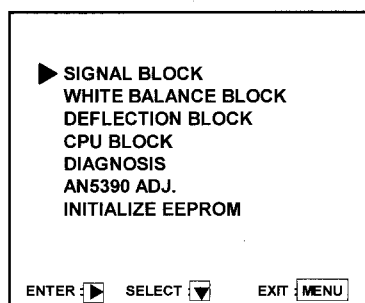

Fig.3
7. Perform adjustments according to the adjustment items(Fig.3).